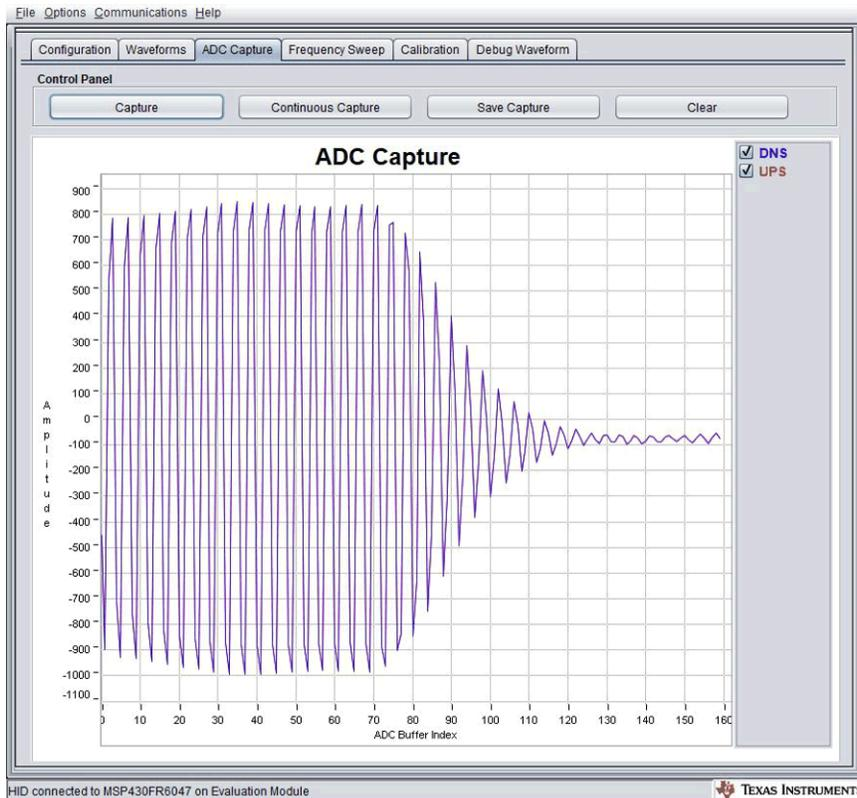
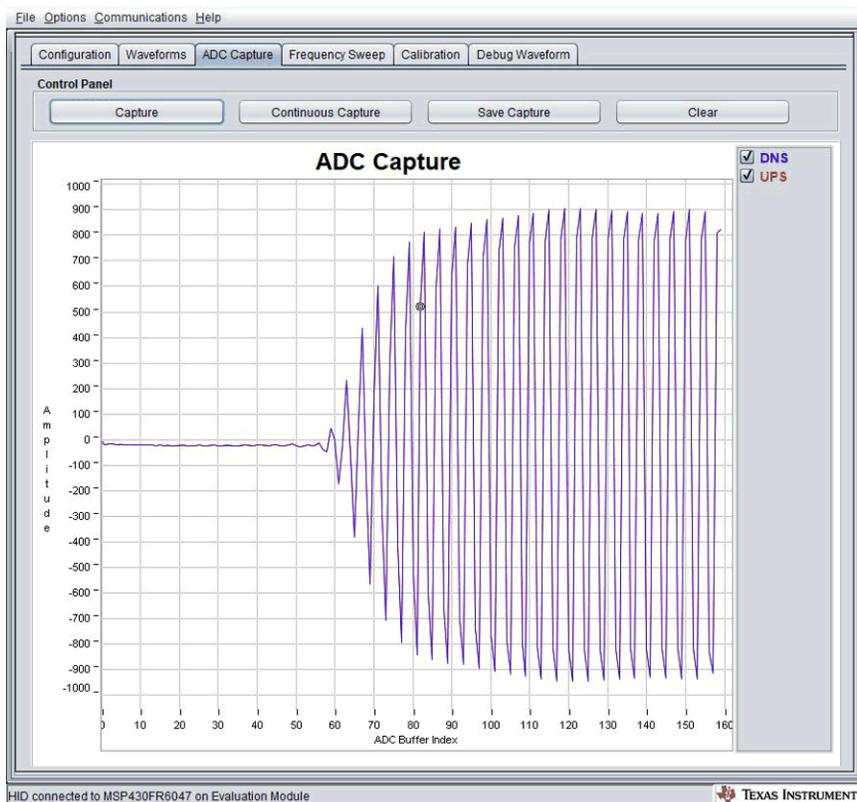

Figure 4-7. Gap Between Pulse Start and ADC Capture Set Too Long
Figure 4-8. Gap Between Pulse Start and ADC Capture Set Too Short
- Adjust the Gap between pulse start and ADC capture. Figure 4-7 shows an example where the gap is set too long. Figure 4-8 shows an example where the gap is set too short.